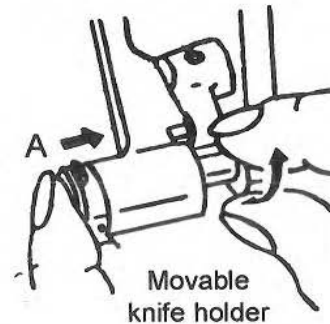

Figure 4
3. Releasing the upper knife. Figure 4